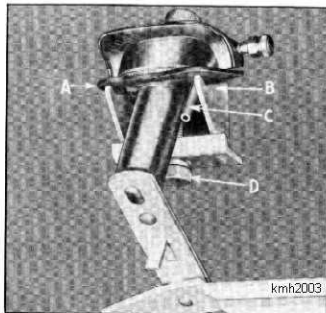

Fig. 31—Windshield Wiper Transmission
3. Disconnect windshield wiper hose at transmission indicated at "C" (fig. 31).